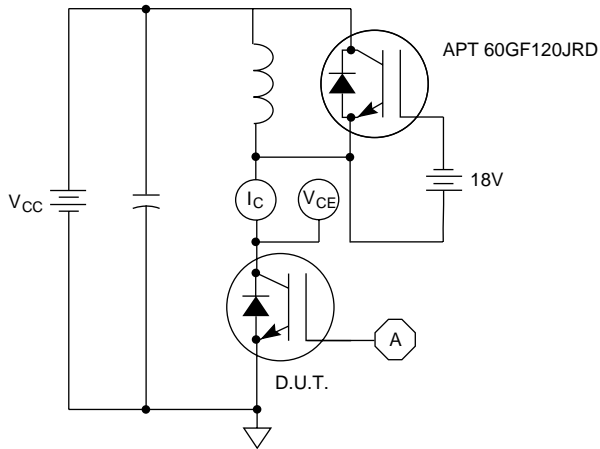

Figure 21. Inductive Switching Test Circuit
- ⑤ E_{on2} is the clamped inductive turn-on energy that includes a commutating diode reverse recovery current in the IGBT turn-on switching loss. A Combi device is used for the clamping diode as shown in the E_{on2} test circuit. (See Figures 21, 22.)
- ⑥ E_{off} is the clamped inductive turn-off energy. (See Figures 21, 23.)